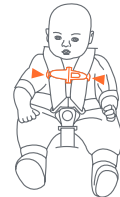

Fig. 38-3
- Fasten the Harness Chest Clips together. Position the Harness Chest Clip, by sliding the Clip either up or down on the Harness Straps, so that it is level with the child's armpits (Fig. 38.3).